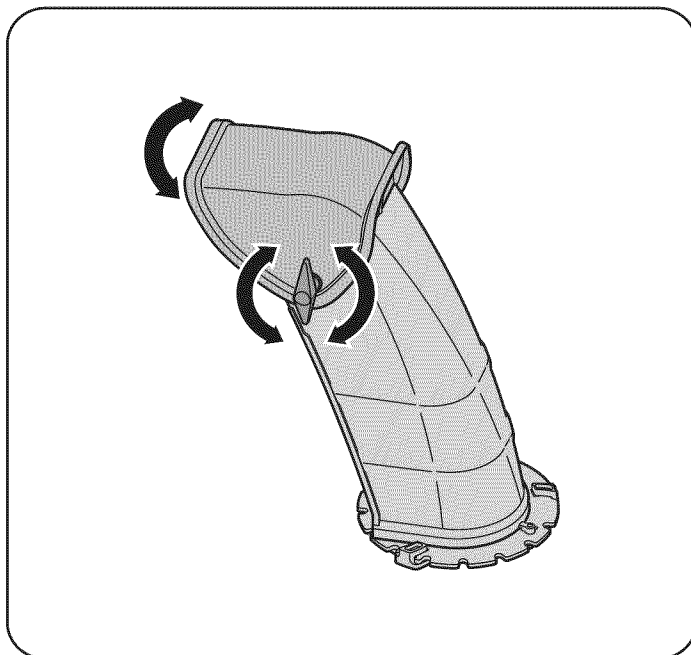

Figure 14
2. Pivot the chute upward or downward before retightening the wing knob. See Figure 14.